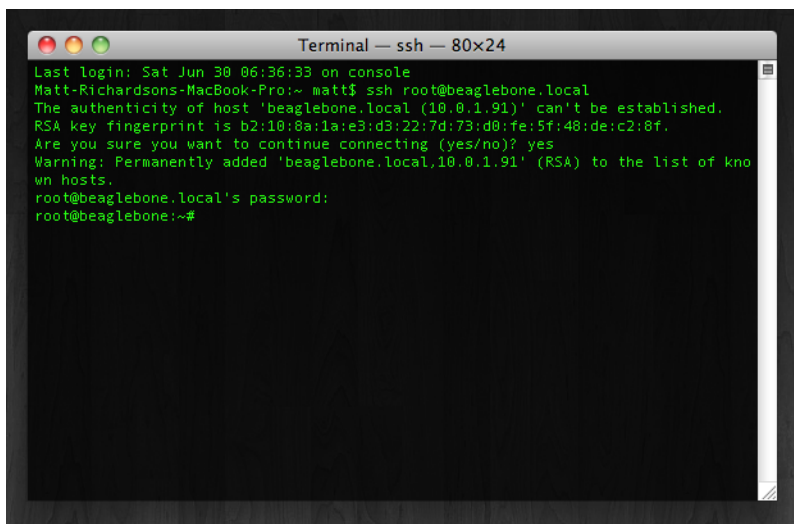

Figure 2-3. SSH login screen
6. You know you're connected when you see the prompt: `root@beaglebone:~#` (Figure 2-3).